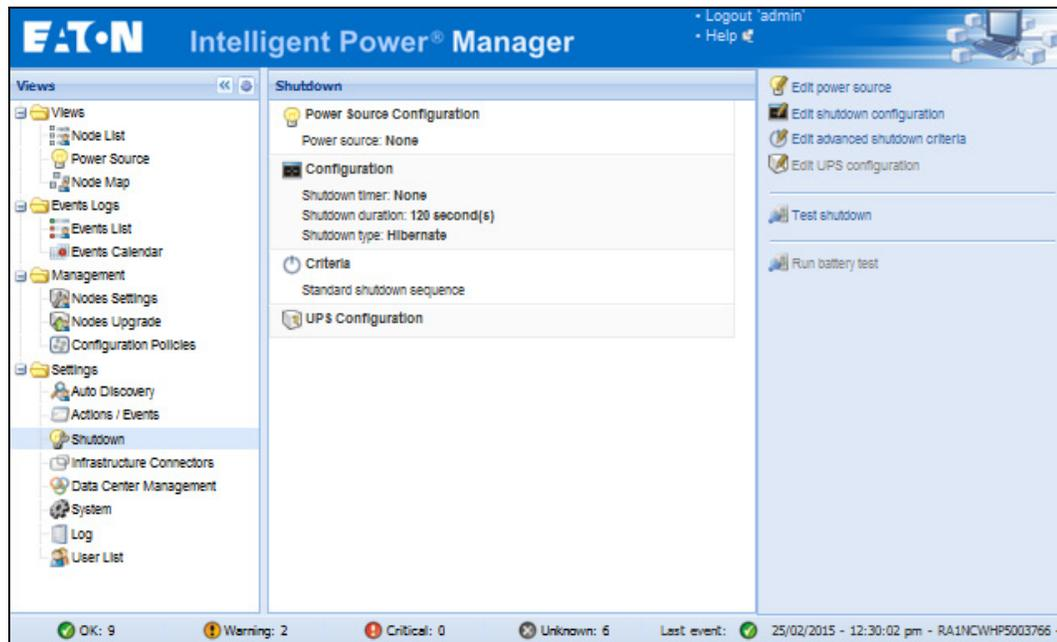

Figure 67. Shutdown Page
1. From the left-side **Views** panel of the Eaton IPM main interface window, select the **Settings > Shutdown** menu item. The Shutdown page displays (see Figure 67).